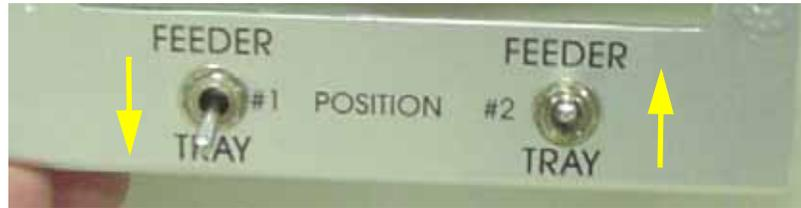

Figure 1-61—Set switch panel to match tray configuration
- 12a) Set the switch panel to match configuration. For example, the switch panel shown in *Figure 1-61* is set for a TF30 Tray Feeder in Position #2 (switch up), and a static tray in Position #1 (switch down).